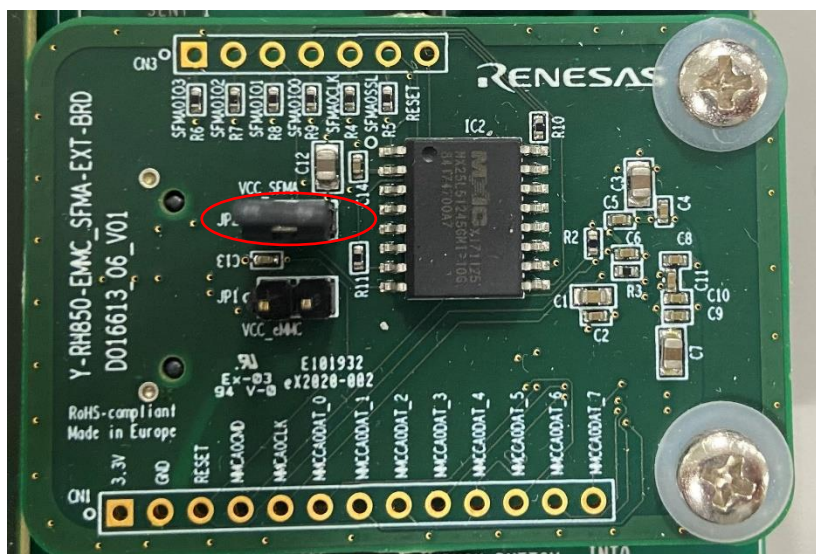

Figure 9 Peripheral module eMMC/SFMA - RH850-EMMC-SFMA-EXT-BRD
- Peripheral module eMMC/SFMA by default have main board connection to CN2. Jumper JP2 (Figure 9 Peripheral module eMMC/SFMA - RH850-EMMC-SFMA-EXT-BRD red ellipse) should be applied to power supply serial flash IC.